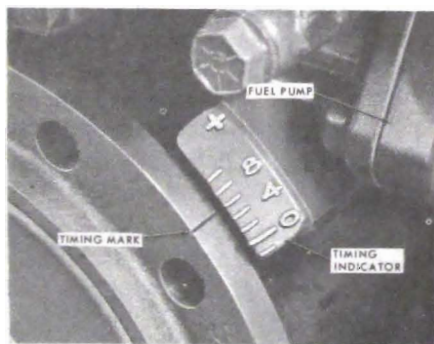

Figure 68-38 - Ignition Timing Mark and Indicator -V-8 Engines
The timing mark is a groove filled with yellow paint, which is in the edge of the harmonic balancer. The timing indicator, a part of the timing chain cover, has ridges outlined with yellow paint. See Figure 68-38.
2. Install distributor in engine with rotor in position to fire No. 1 cylinder and with vacuum control in position to connect vacuum hose. See Figure 68-38. Install distributor clamp and bolt with lock washer, leaving bolt just loose enough to allow movement of distributor with hand pressure.